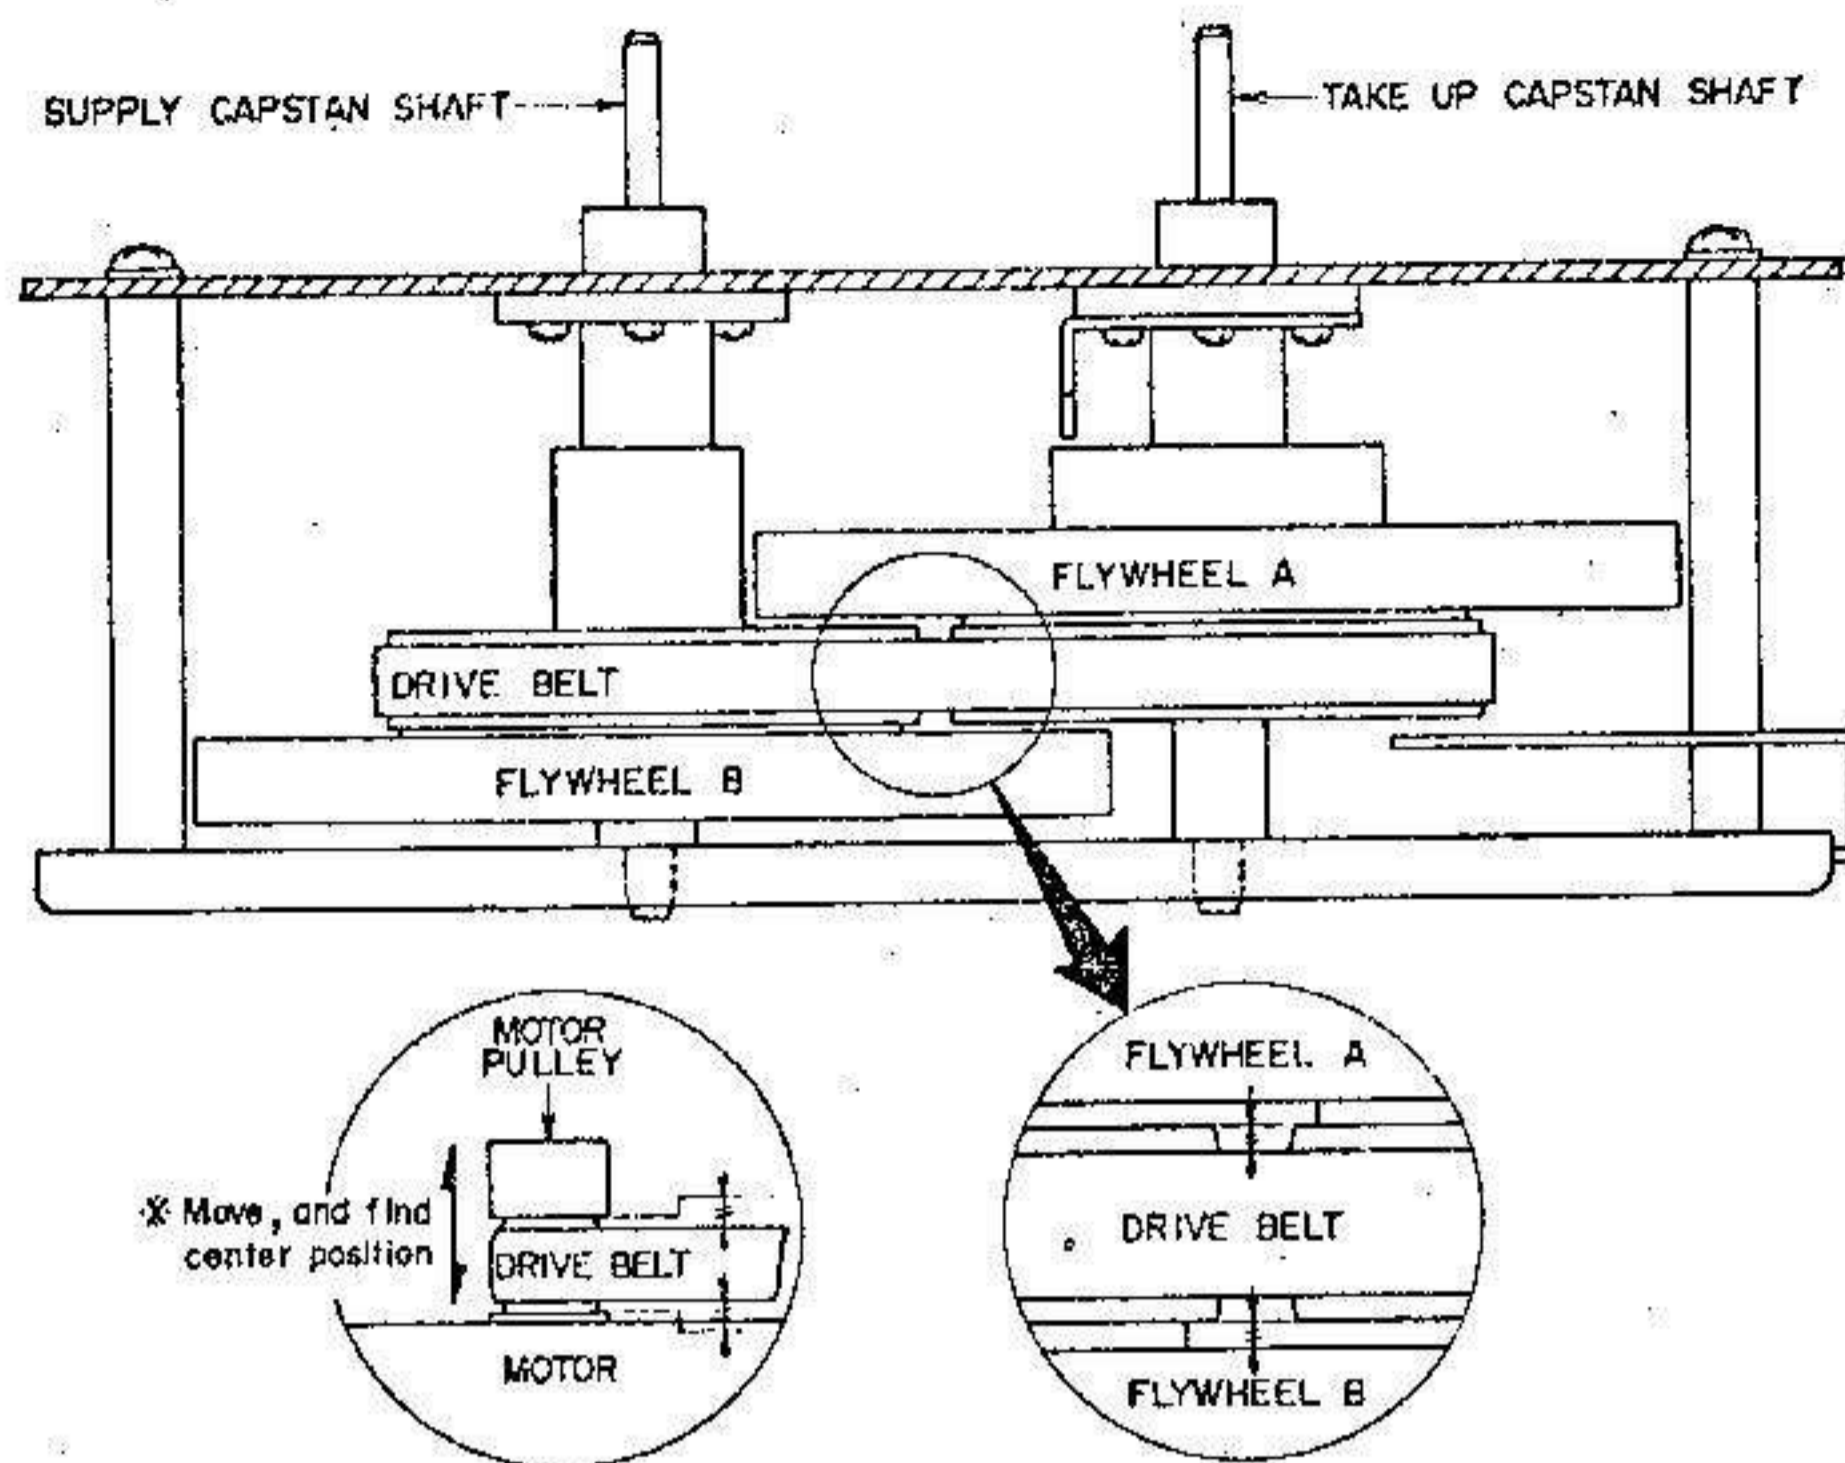

Fig. 3
1. As shown in Fig. 3, the drive belt must run in the center between flywheel A and flywheel B and on the center of the motor pulley.